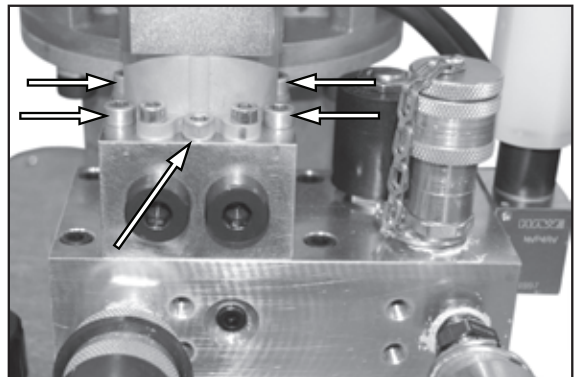

Figure 44.
2. See Figure 44. Loosen the five 2-position/4-way valve bolts. The bolts are captured and part of the assembly.